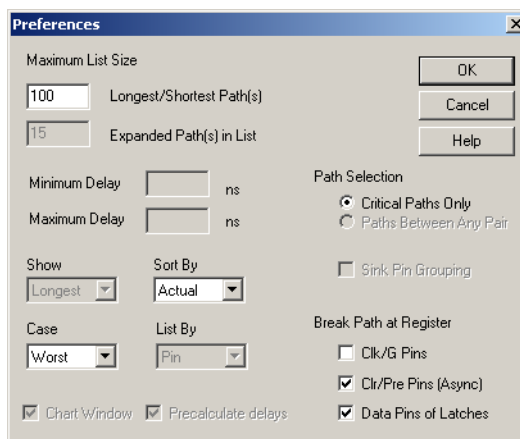

Figure 2-11. Preferences Dialog Box
2. **For additional Timing Report Options, click the *Options* button.** This displays the Preferences dialog box, as shown in Figure 2-11.
3. **Select analysis preferences.** The default settings are shown in Figure 2-11. You have the following options for your Timing Report: